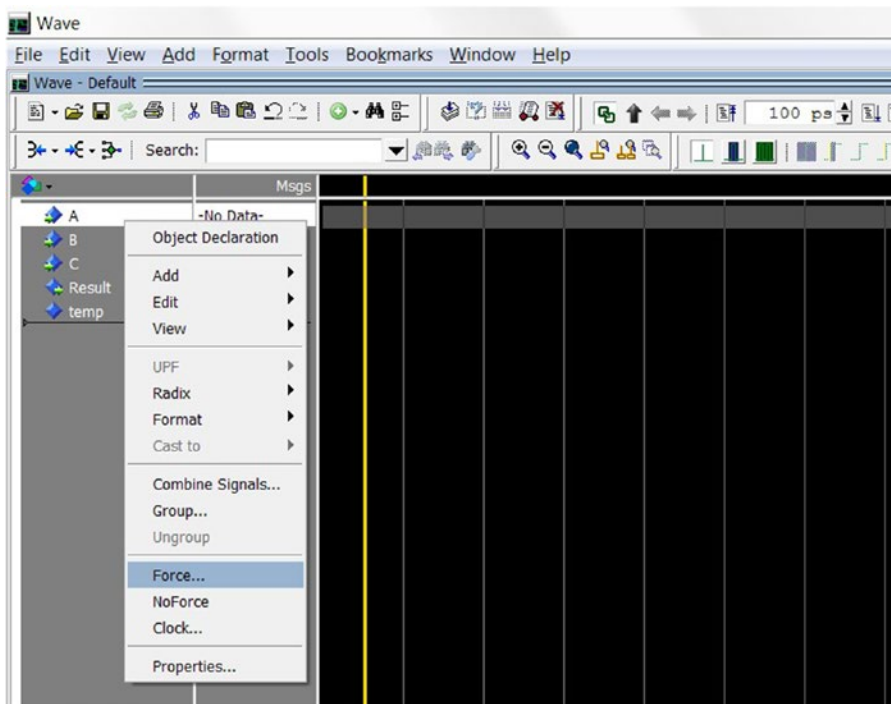
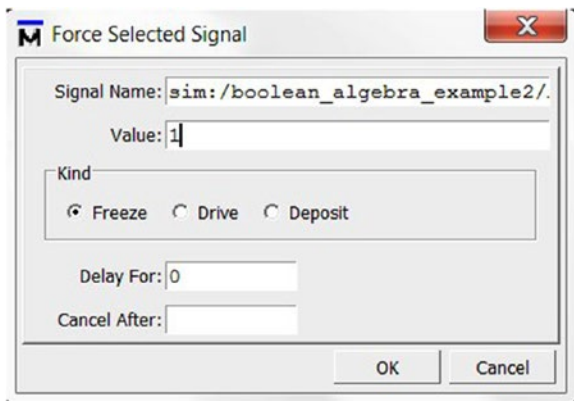

Figure 8-17. Force signal A to high (1)
Figure 8-18. Force signal A to high (1)
11. Right-click A signal and select **Force...** Force Selected Signal window pop-up (Figure 8-17). Change the Value from U to 1 (Figure 8-18) and click OK. Or type **force -freeze sim:/boolean_algebra_example2/A 1 0** in the transcript (tcl window).